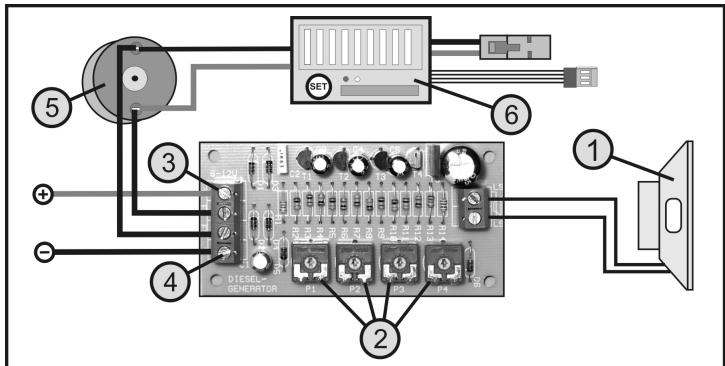

Figure 1
- Connect a miniature loudspeaker to the the 2-pin terminal „LS“ (see Figure 1, position 1). The loudspeaker must have an impedance of 4 - 8 ohms.
- Move the slider of the controllers P1 - P4 into the middle position using a suitable screwdriver (see Figure 1, position 2). Use an adjustable plastic screwdriver to avoid short-circuits.
- Connect the power supply (6 - 12 V/DC) to the terminals "+" (see Figure 1, position 3) and "-" (see Figure 1, position 4) observing the correct polarity.
- If you want the electronic driving sound to be dependent on the driving speed, both terminals „FS“ must be connected to the driving motor in parallel (see Figure 1, position 5). It is not necessary to observe a certain polarity of the motor connection.
A drive motor can only be connected, if the motor is a direct current motor (collector motor with 2 connection cables) with an appropriate cruise control (see Figure 1, position 6).